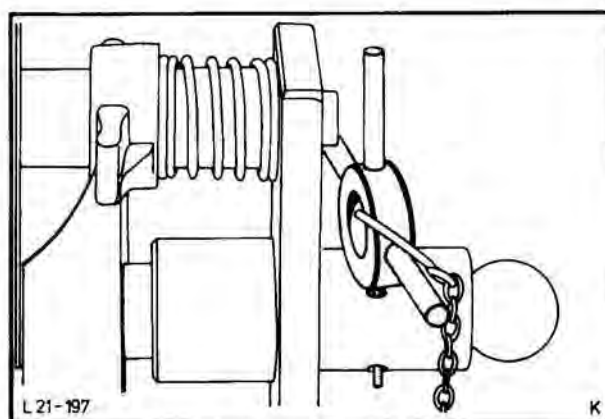

Fig. 226. Fit stop gauge
8. Insert stop gauge into Special Tool, Fig. 226.